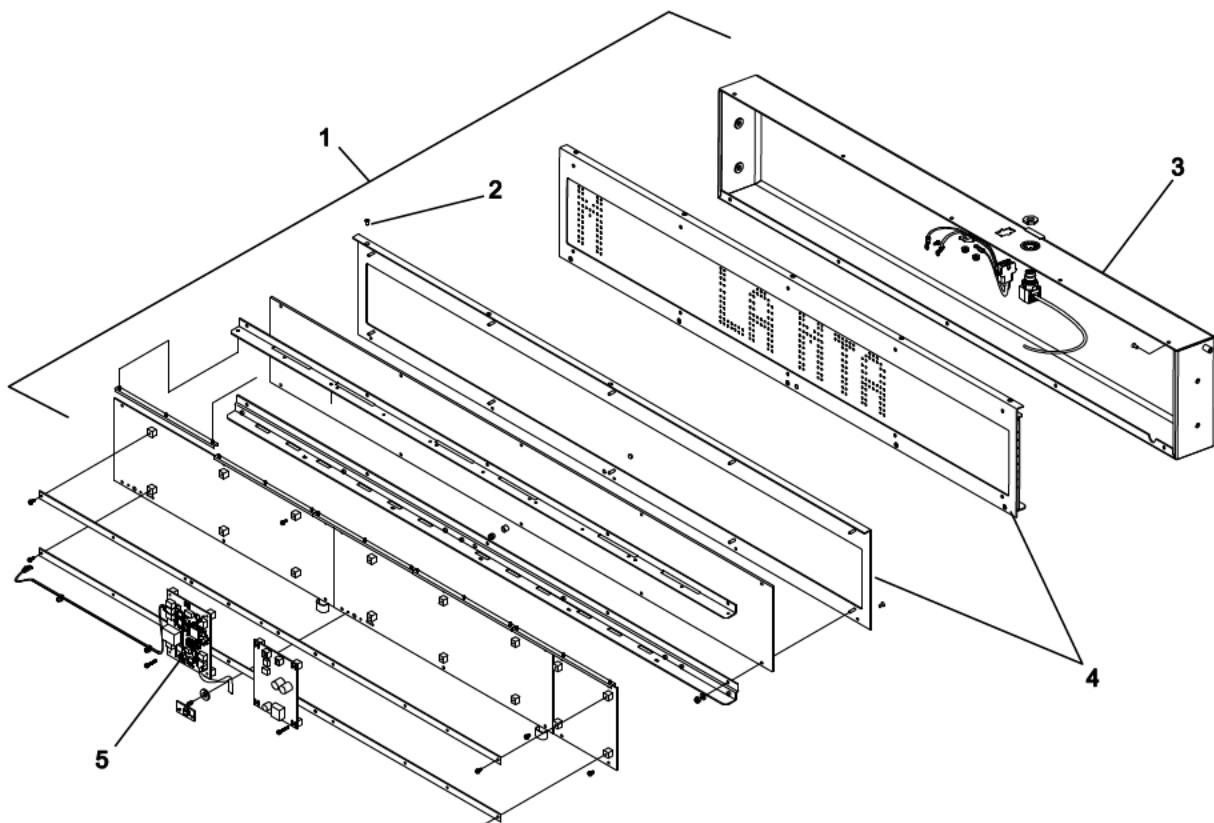

Figure 8-24: Replace Side Destination Sign Control PCB
1. Remove side destination sign assembly (1, Figure 8-24) from its mounted location.
2. Remove ten 6-32 x 5/16 FH Phillips screws (2) that secure the housing assembly (3) to front panel assembly (4).
3. Carefully separate the housing assembly (3) from front panel assembly (4) to access electrical wiring and harnesses.
4. Tag and disconnect electrical wiring connectors from the control PCB (5).
5. Remove control PCB (5) with RS-485 ports to the left.
6. Install replacement control PCB (5).
7. Connect electrical wiring connectors to the control PCB (5).
8. Install the housing assembly (3) to the front panel assembly (4) using ten 6-32 x 5/16 FH Phillips screws (2).